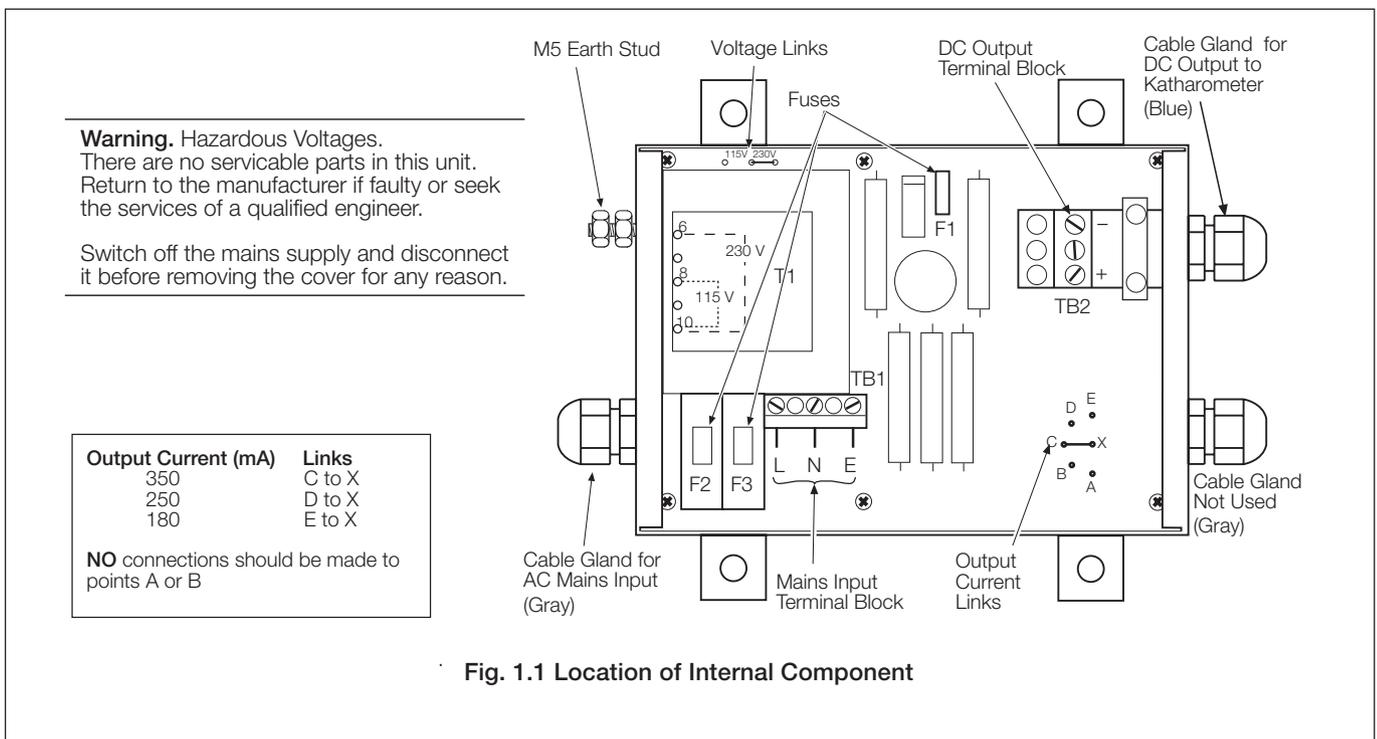

Fig. 1.1 Location of Internal Component
1.2 Description – Fig. 1.1
A printed circuit board (PCB) assembly (see Fig. 1.1) contains the circuit components. The supply voltage input is connected to terminal block (TB1) located on the PCB, adjacent to the fuses F2 and F3. The intrinsically safe constant current output terminal block (TB2) is located on the gland assembly at the opposite end of the assembly. The PCB is mounted on a steel chassis and secured by six screws. The cover is perforated to allow ventilation for cooling.